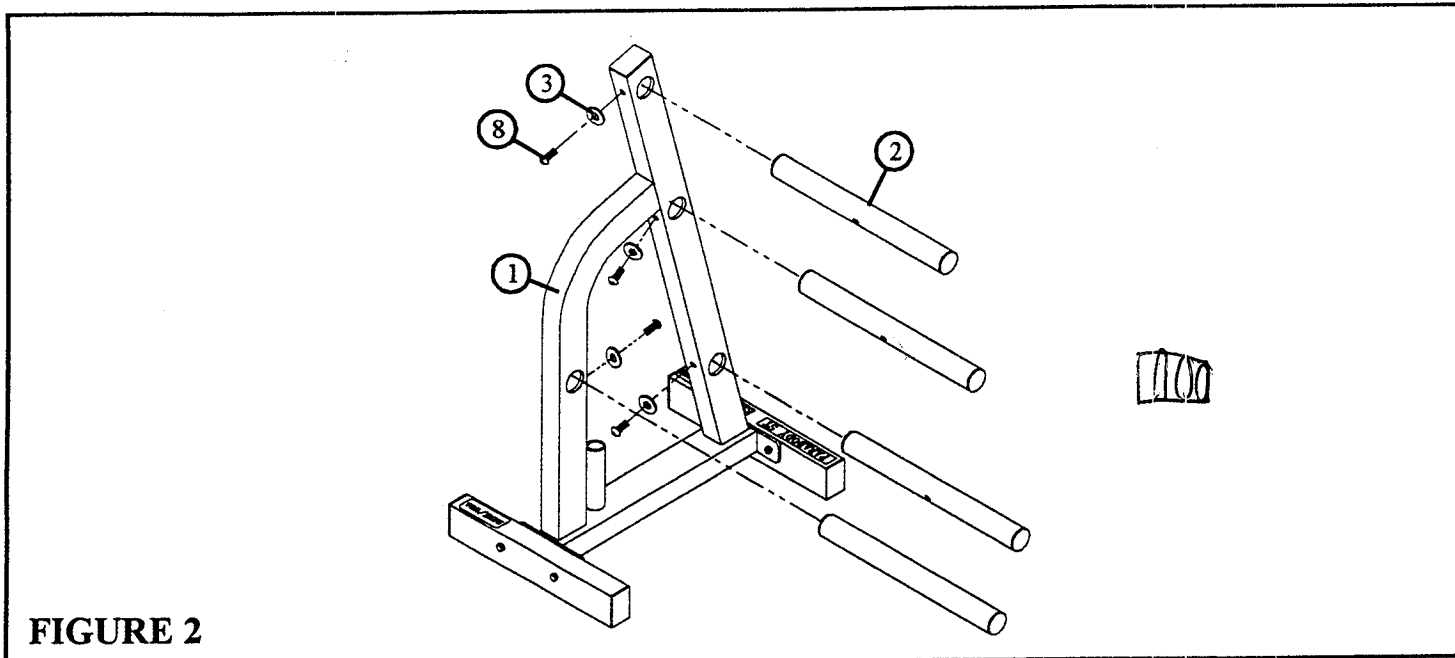

FIGURE 2
STEP 2: Insert the four 1-1/2 DIA X 19" TUBES (2) through the side of FRAME WELDMENT (1) so the threaded hole in the 19" TUBES (2) lines up with the holes in the FRAME WELDMENT (1) as shown in FIGURE 2.
STEP 3: SECURELY assemble the four 1-1/2" DIA X 19" TUBES (2) to the FRAME WELDMENT (1) using four 3/8-16 X 1" BUTTON HEAD CAP SCREWS (8) and four 3/8" LOCKWASHERS (3) as shown in FIGURE 2.